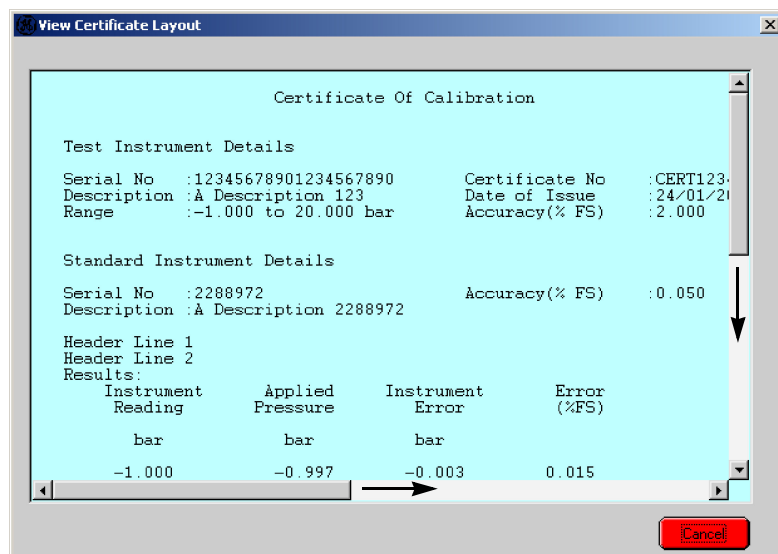

Figure 5-18: Example display - Certificate View option
1. When all the data is set up (Section 5.5.2 or 5.5.5), click on the *View* button to see the contents of the certificate. > See Figure 5-18.